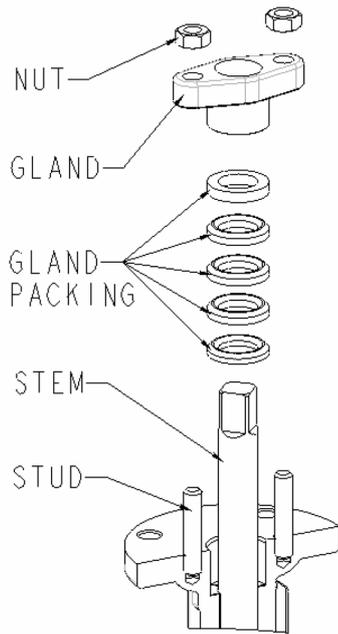

Fig. 11
11.2 Remove all of the packing in the stuffing box using a flexible screw hook. For stuffing boxes that contain a lantern ring, use a puller with 10-32 threads to remove the lantern ring. Save the lantern ring for reuse, but discard the other packing material. Please replace all the gland packing no matter the gland packing is made of PTFE. (Fig.11)